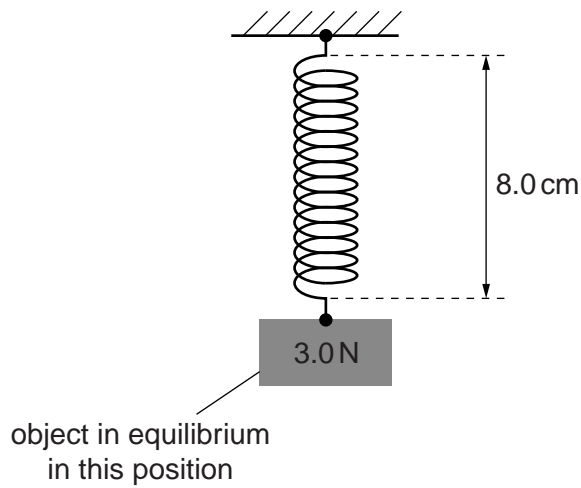

Fig. 7.1
- 2 A light spring of unextended length 2.0 cm is hung from a fixed point. An object of weight 3.0 N is hung from the other end of the spring. Fig. 7.1 shows the length of the spring when the object is in equilibrium.